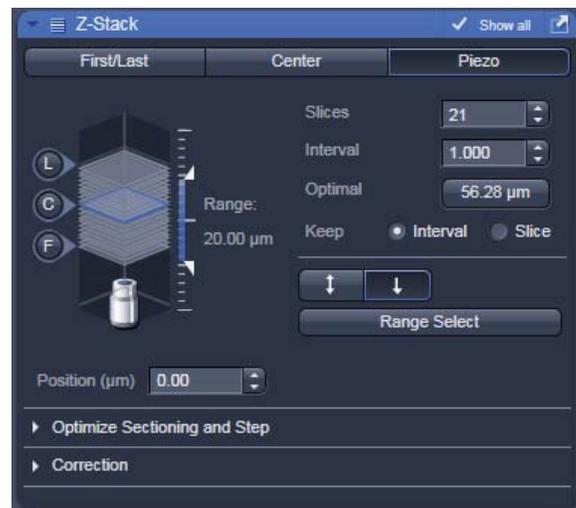

Fig. 4-58 Z-Stack tool Piezo mode with Z-Stack Navigation displayed
- Define the first and last slice using **Start/End** mode. Activate **Piezo** mode (Fig. 4-58). The total Range of the Z-Stack is limited to 250 μm when using the Piezo device. Adjusting the value for **Number of Slices** or **Interval** is independent from each other and affects the Range of the stack. The Focus Position is not changed.